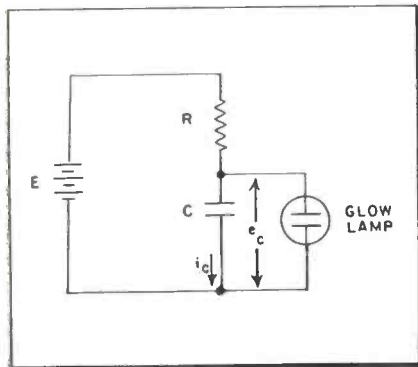
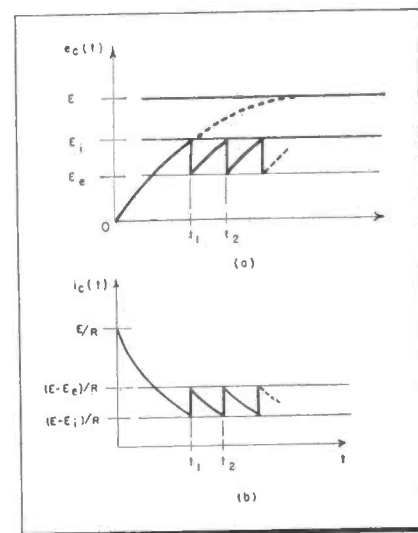

Fig. 3: RC-glow lamp relaxation circuit
Fig. 4: Condenser voltage (a) and current (b)
In the simple relaxation circuit, Fig. 3, charge accumulates on the condenser until the condenser voltage reaches the ignition voltage ( $E_i$ ) of the neon glow lamp. The lamp "fires" and discharges the condenser until the condenser voltage falls to the extinction voltage ( $E_e$ ) of the lamp. Thereafter the condenser voltage is cyclic as shown in Fig. 4(a); condenser current varies as in Fig. 4(b). The time required for the condenser voltage to drop from  $E_i$  to  $E_e$  is negligible here, since the resistance of the "fired" neon lamp is a few thousand ohms compared to the  $10^9$  -  $10^{12}$   $\Omega$  resistance of a cadmium sulfide crystal. Thus the charging time constant is at least  $10^6$  times the discharging time constant.
As shown in Fig. 4 (b), the value of  $i_c$  an instant before the time  $t_2$  (at which the lamp ignites) is  $\frac{E - E_i}{R}$ . Substituting this value of  $i_c$  in eq. (1) and solving for the period of oscillation,
Since the same doppler frequency results for a given velocity, regardless of whether the aircraft is ascending or descending, some means must be provided for sensing the direction of the velocity. A dual channel microwave receiving system, as shown in Fig. 2, is used for this purpose. Its operation is described by the block diagram in Fig. 3. The klystron generates one watt of power which enters the H arm of a waveguide magic tee where it divides between the two side arms. One half of the power is transmitted out through a dielectric-rod antenna, while the other half goes into a 30 db attenuator pad and then to the E arm of a second magic tee where it divides again and enters two crystal mixers. The unavoidable cross-coupling between the H and E arm of the first magic tee is adjusted to -33 db and used to provide a signal to the H arm of the second magic tee. This signal also divides between the two crystal mixers. Thus 0.5 mw of local oscillator power is supplied to each crystal. The phase relationship between these signals is shown in Fig. 4. Note that the E and H arm local oscillator voltages are of